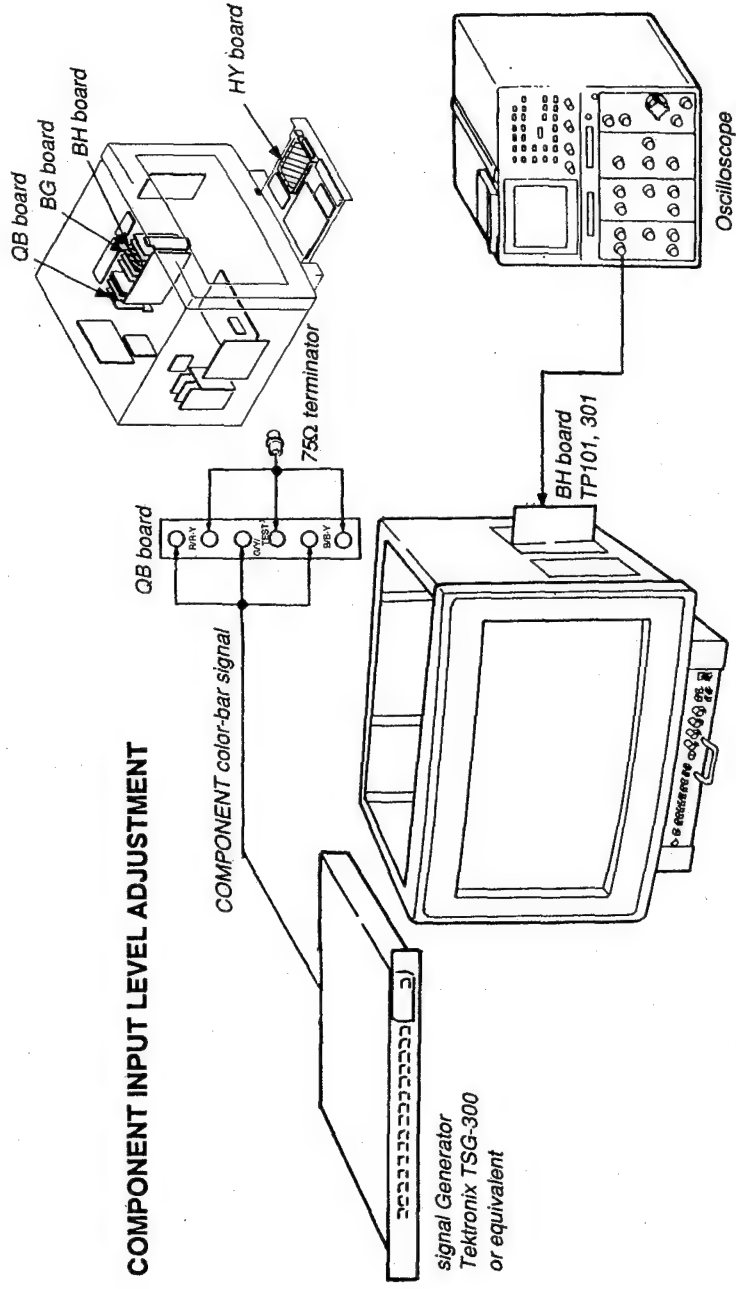

Fig. 6-1.
1. Complete the connections as shown in Fig. 6-1.